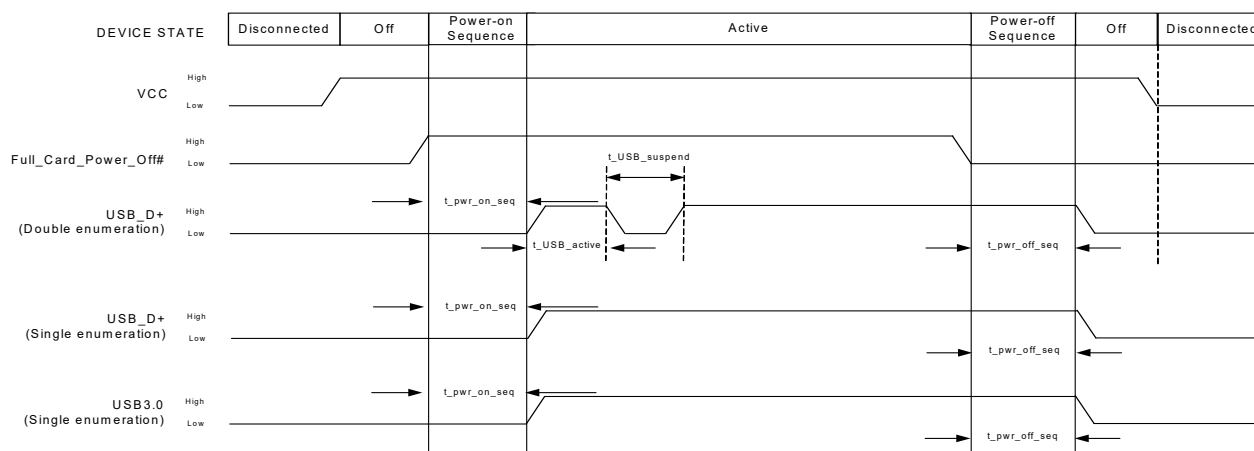

Figure 5-2: Signal Timing (Full\_Card\_Power\_Off#, and USB Enumeration)
Figure 5-2 describes the timing sequence for powering the module on and off.
- Double enumeration—As shown in Figure 5-2: